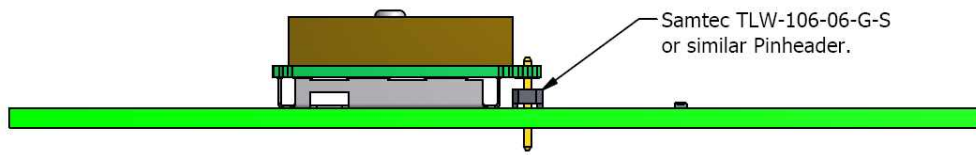

Figure 4: Side view of the pin header assembly for the UP501 module
- Solder the pin header to the module in such way that the pins are as short as possible on the antenna side of the UP501 module (see figure 4).